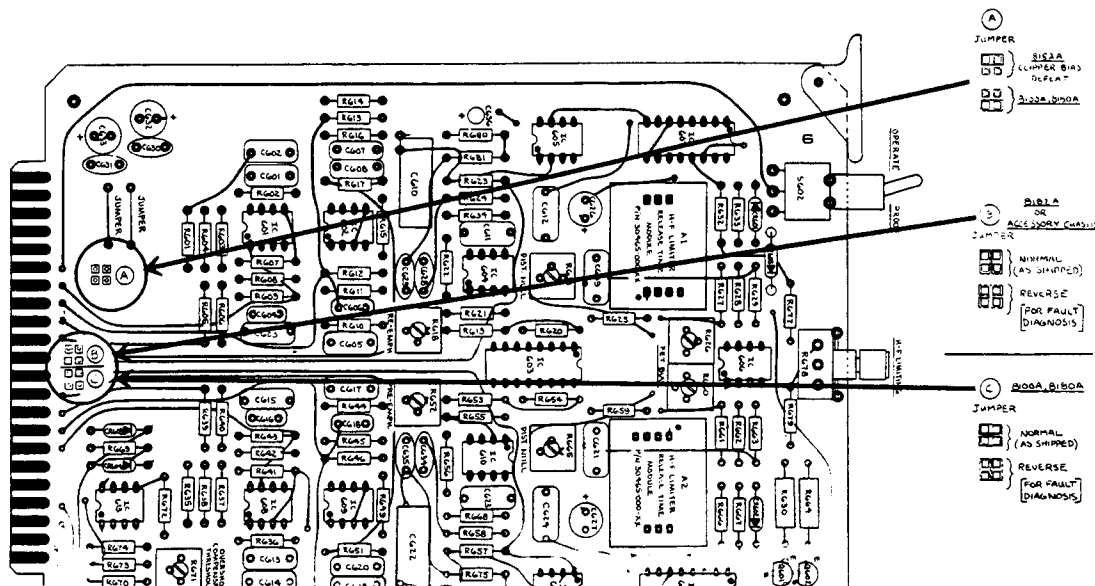

Fig. F-1: CARD #6: JUMPER LOCATIONS
If interchanging these card pairs fails to affect the location of the problem, then Card #6 should be investigated. This card passes both left and right audio. To aid troubleshooting, jumper "B" is provided at the output of the card to interchange the outputs of the left and right channels (See Fig. F-1). Jumper "B" contains links if the system is operating in its "normal" mode (with Cards #0 and #1 present). If this jumper is moved and the fault moves from one channel to the other, then Card #6 is probably faulty.
- 2) Remove Card #6 from its slot. Remove the links from jumper "B" and place them on jumper "C" as shown in Fig. F-1. Then move the link on jumper "A" as shown in Fig. F-1. Replace Card #6 in its slot.